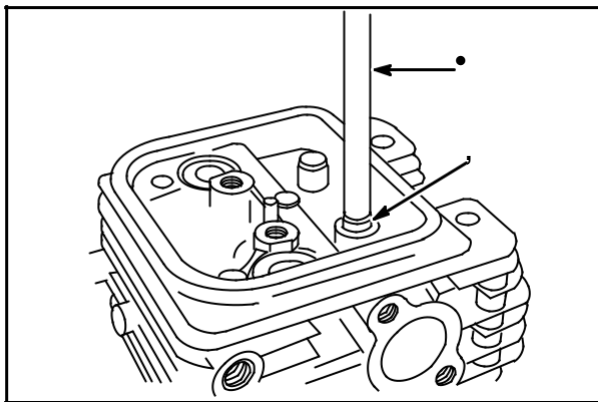

Fig. 11
Press out old valve guide (2) using Bushing Driver (1), #19367, Fig. 11.